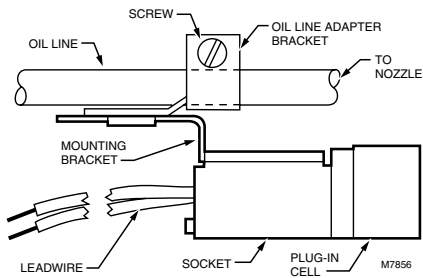

Fig. 5. Use oil line adapter bracket to mount C554A on oil line.
- 7 Mount the oil line adapter bracket on the oil line using the screw and nut provided (Fig. 5).